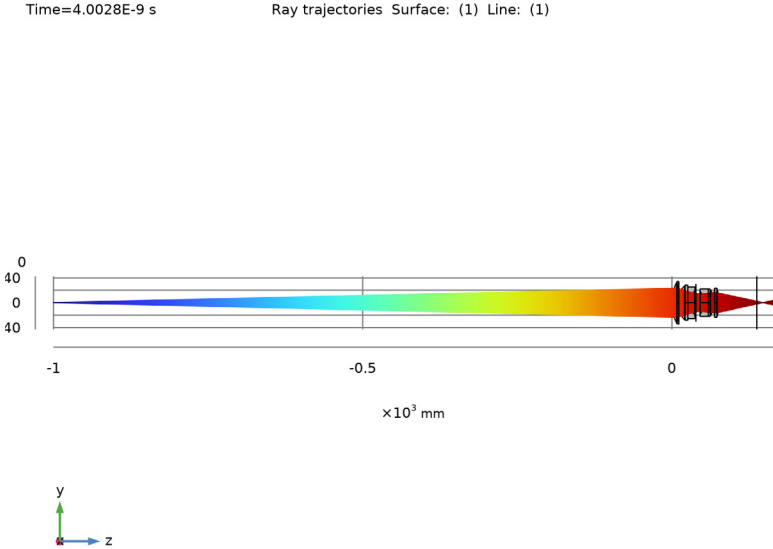

Figure 2: A ray diagram showing the finite conjugate ray trace. The rays now pas through the nominal focal plane.
We do this by releasing a cone of rays from the point on the optical axis intersecting the object plane. The rays can be made to ignore the image surface because, as can be seen in the Ray Diagram shown in Figure 2, the focus is now somewhere behind this plane.
- 5 Click the  **Zoom Extents** button in the **Graphics** toolbar. Compare the result to Figure 2.